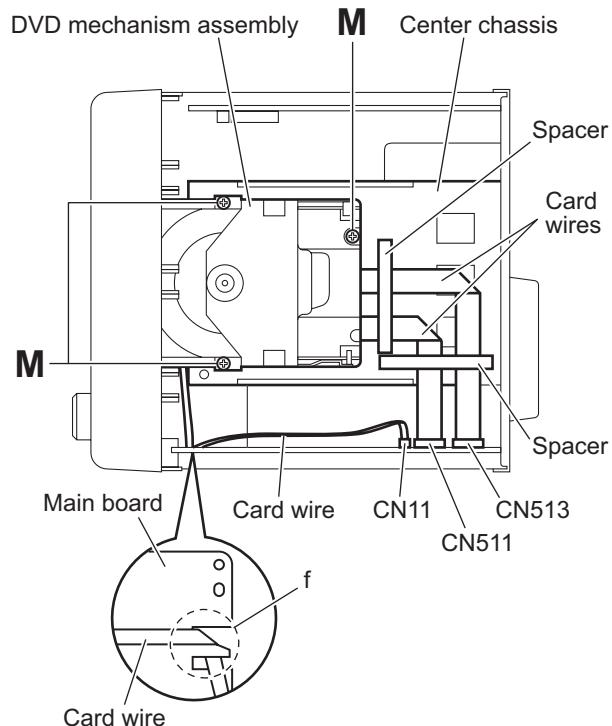

Fig.12
(See Figs.12 and 13)
(1) From the top side of the main body, remove the three screws **M** attaching the DVD mechanism assembly on the center chassis. (See Fig.12.)
(2) From the forward side of the main board, disconnect the card wires from the connectors (CN11, CN511, CN513). (See Fig.12.)
When reassembly, pass the card wire through the section **f** of the main board before connecting the card wire to the connector CN11. (See Fig.12.)
(3) Remove the spacers fixing the card wires. (See Fig.12.)
After connecting the card wires, fix them with the spacers as before. (See Fig.12.)